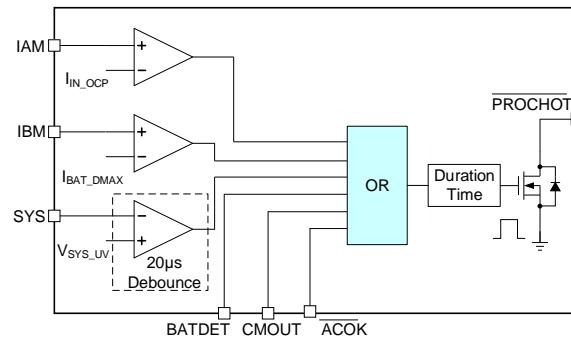

Figure 10: PROCHOT Events
The thresholds for  $I_{IN\_OCP}$ ,  $I_{BAT\_DMAX}$ , and  $V_{SYS\_UV}$  are configurable via the  $I^2C$ . To set the PROCHOT assertion threshold for adapter over-current (OC) conditions, write an  $I_{IN\_OCP}$  command to REG12h. If the adapter current exceeds the  $I_{IN\_OCP}$  threshold, the PROCHOT signal asserts after the debounce time. The signal latches on for a minimum time, which is configured via REG0Eh (see Figure 10).